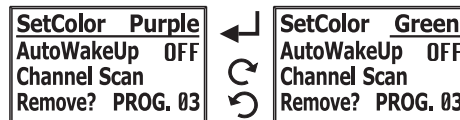

Fig. 22
(M) SetColor function, Fig. 22: